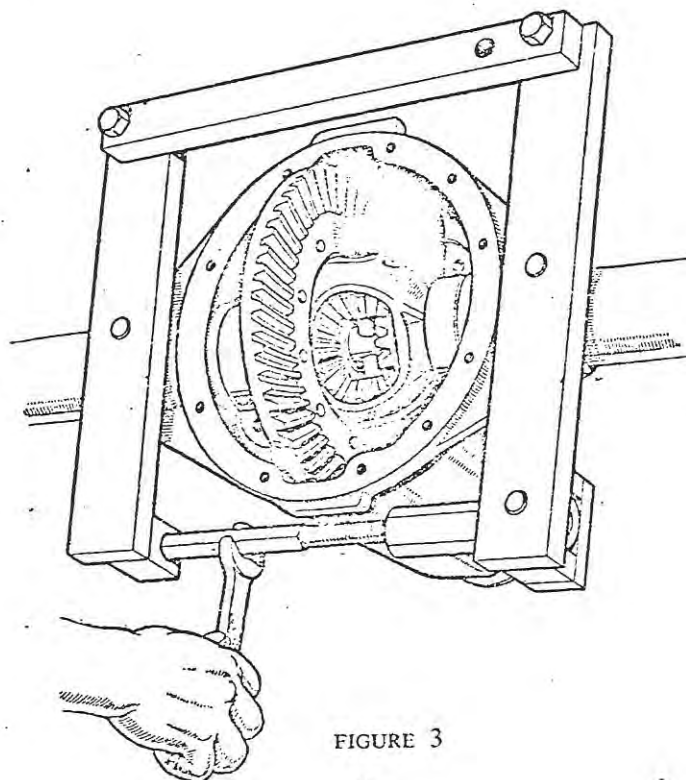

FIGURE 3
- (1) Withdraw the four bolts securing the two differential bearing caps and remove the two caps.
- (2) Before attempting to remove the differential assembly, fit the stretching fixture, Tool No. SL.1 (SE.104) in the Service Tool List, as shown in figure 3. The fixture should be adjusted to suit the model being serviced, a series of holes being provided in the member opposite the turnbuckle for this purpose. Open the fixture by means of the turnbuckle until it is hand tight, then spread the casing by using a spanner. **DO NOT OVER-SPREAD, OR THE CASING WILL BE DAMAGED BEYOND REPAIR.** The correct spread does not exceed a half turn on the turnbuckle, and this figure should not be exceeded even if the differential is still stiff to move.
- (3) The differential assembly may now be prised out by means of two levers, one on each side of the differential case opening. During this operation use suitable packing between the levers and the gear carrier.